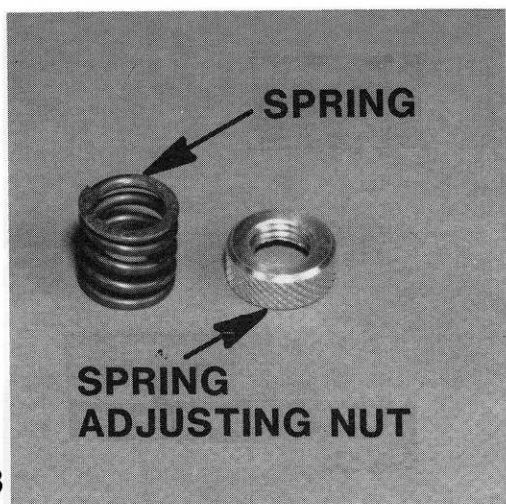

Fig. 23
□ **Figs. 23 & 24** From the same bag, slip the left hand servo saver arm, the one with the big hole, down onto the aluminum tube. Be sure the hex aligns at the bottom. Now slip the servo arm onto the tube, lining up the V slots.